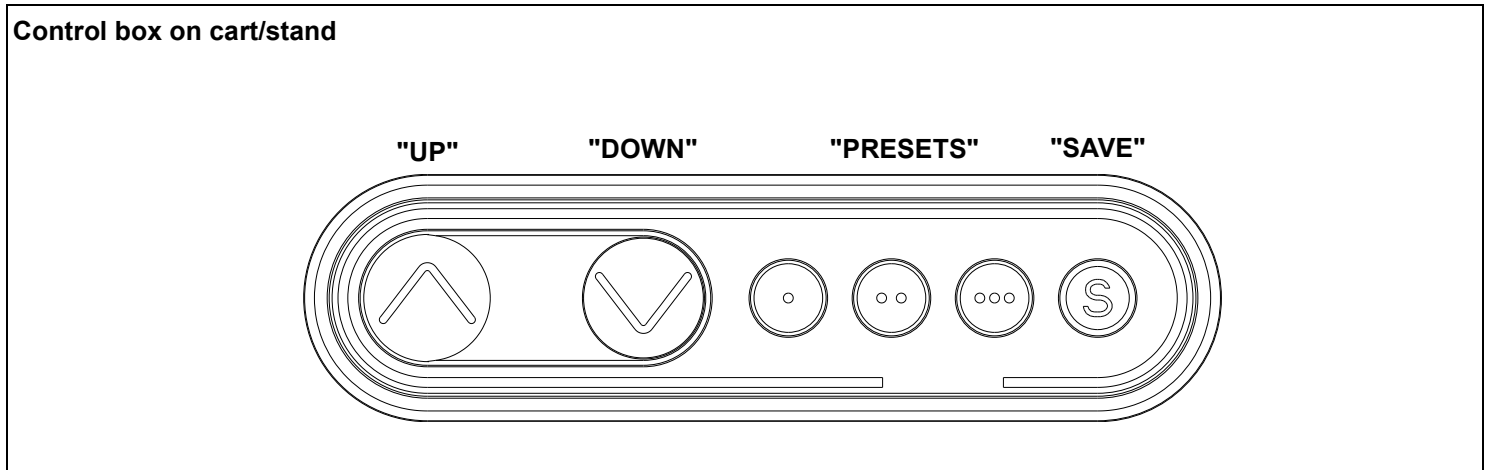

Figure 3:
1. If there is uneven movement, initialize the control box (reset) (See Figure 3)